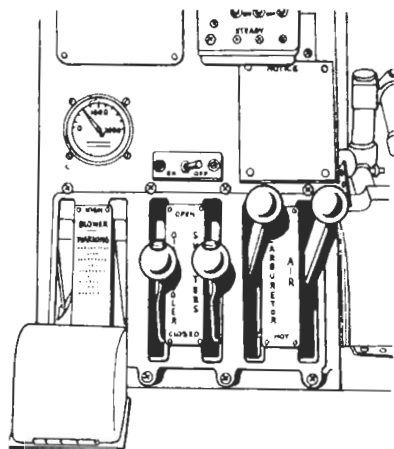

Figure 46—Oil Cooler Shutters Control Levers
(19) If engines have been idle for more than 30 minutes, have same pulled through by hand 16 blades in the direction of normal engine rotation.
(20) Have outside power source or auxiliary power plant connected to outlet in left nacelle.
(21) Check that blowers are in "LOW" with safety cover in place.
(22) Adjust oil cooler shutters to suit outside temperature. (See figure 46.)
(23) Set carburetor air control levers to "COLD" position. (See figure 46.)